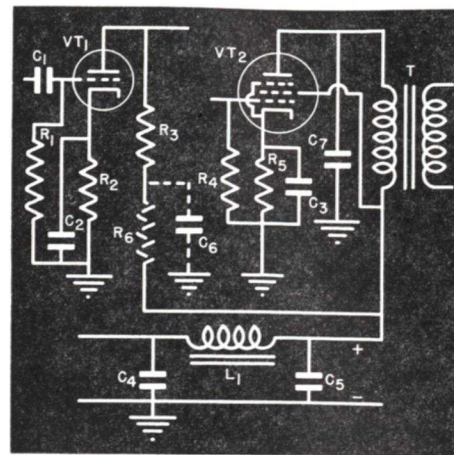

FIG. 22. Motorboating usually occurs in an audio amplifier which does not have decouplers  $R_6-C_6$ , or where this filter is ineffective.
a low impedance to cause feedback. For example, the a.c. plate circuit of the output tube in Fig. 22 traces from the plate, through the primary of transformer  $T$ , through condenser  $C_5$ , and then through  $C_3$  back to the cathode. Therefore, audio variations in this plate circuit will create a voltage drop across  $C_5$ , the amount depending on the strength of the variations and on the reactance of  $C_5$ . Since  $C_5$  is the output filter condenser of the power supply, this audio variation is impressed on other tube plate circuits.
► If either condenser  $C_2$  or  $C_3$  in Fig. 22 opens, the variations in the plate current in that stage will develop an a.c. voltage drop across the cathode resistor. This drop will be introduced in the grid circuit; it will be out of phase with the grid voltage, and so will be a degenerative feedback. Such degeneration does not cause oscillation—in fact, it suppresses it. Manufacturers sometimes deliberately introduce this degeneration both to control oscillations and to flatten out the response characteristics of the amplifier. This must be done carefully, because too much will cause an excessive reduction in gain.